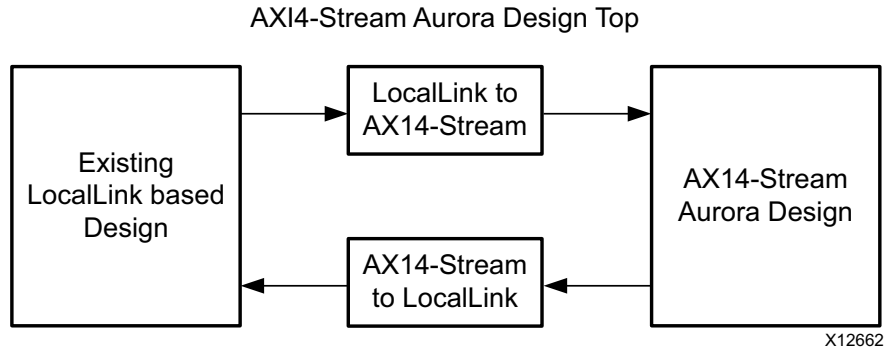

Figure B-2: AXI4-Stream Aurora 64B/66B Example Design
Figure B-2 shows an example Aurora 64B/66B design using the AXI4-Stream interface.
2. See Figure B-2, page 109 for the emulation of a LL Aurora 64B/66B core from a AXI4-Stream Aurora 64B/66B core.
5. Connect the shim and AXI4-Stream Aurora 64B/66B design as shown in Figure B-2, page 109.